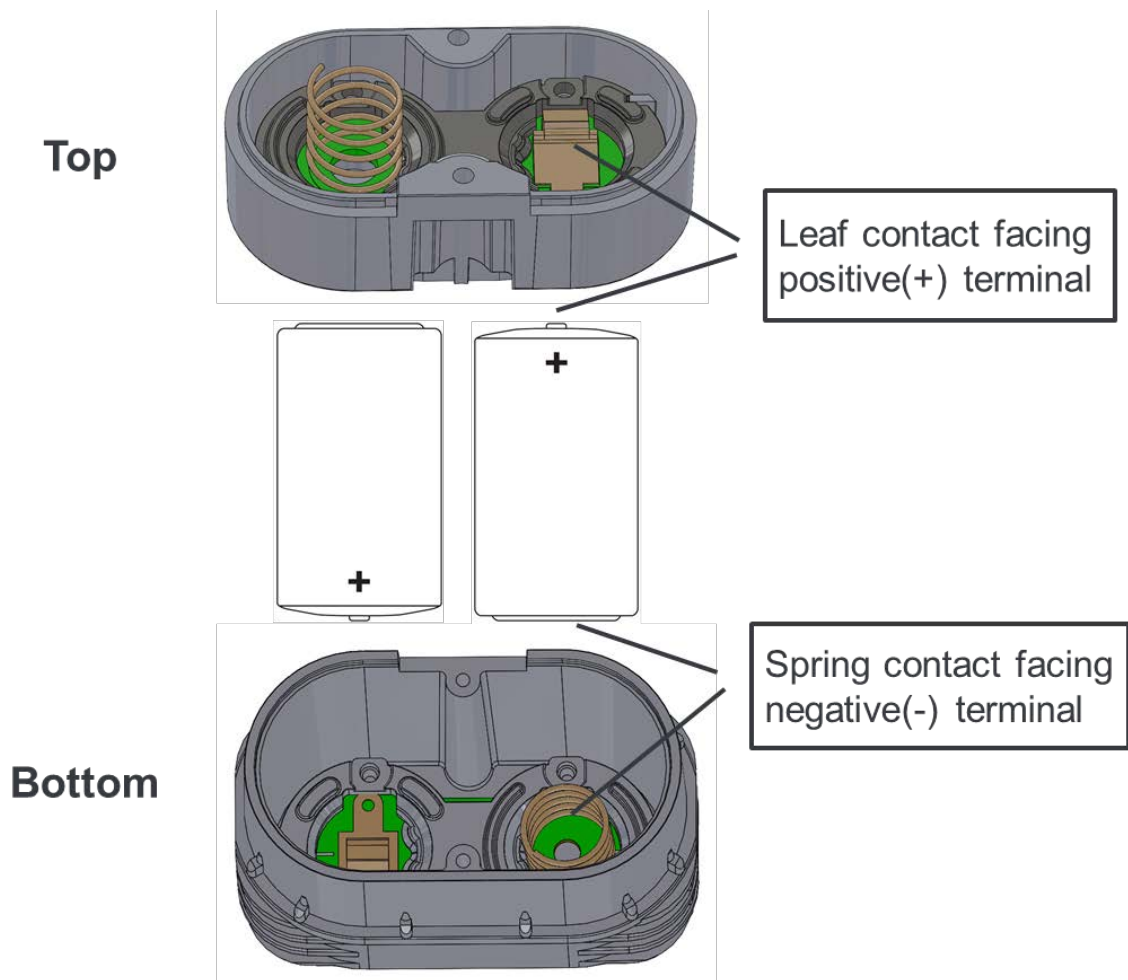

Figure 5-3: Battery pack top and bottom with leaf and spring contacts facing the battery positive (+) and negative (-) terminal, respectively.
- Place both battery cells in the battery pack, leaf contact facing the positive (+) terminal and spring contact facing the negative (-) terminal, cf. Figure 5-3.